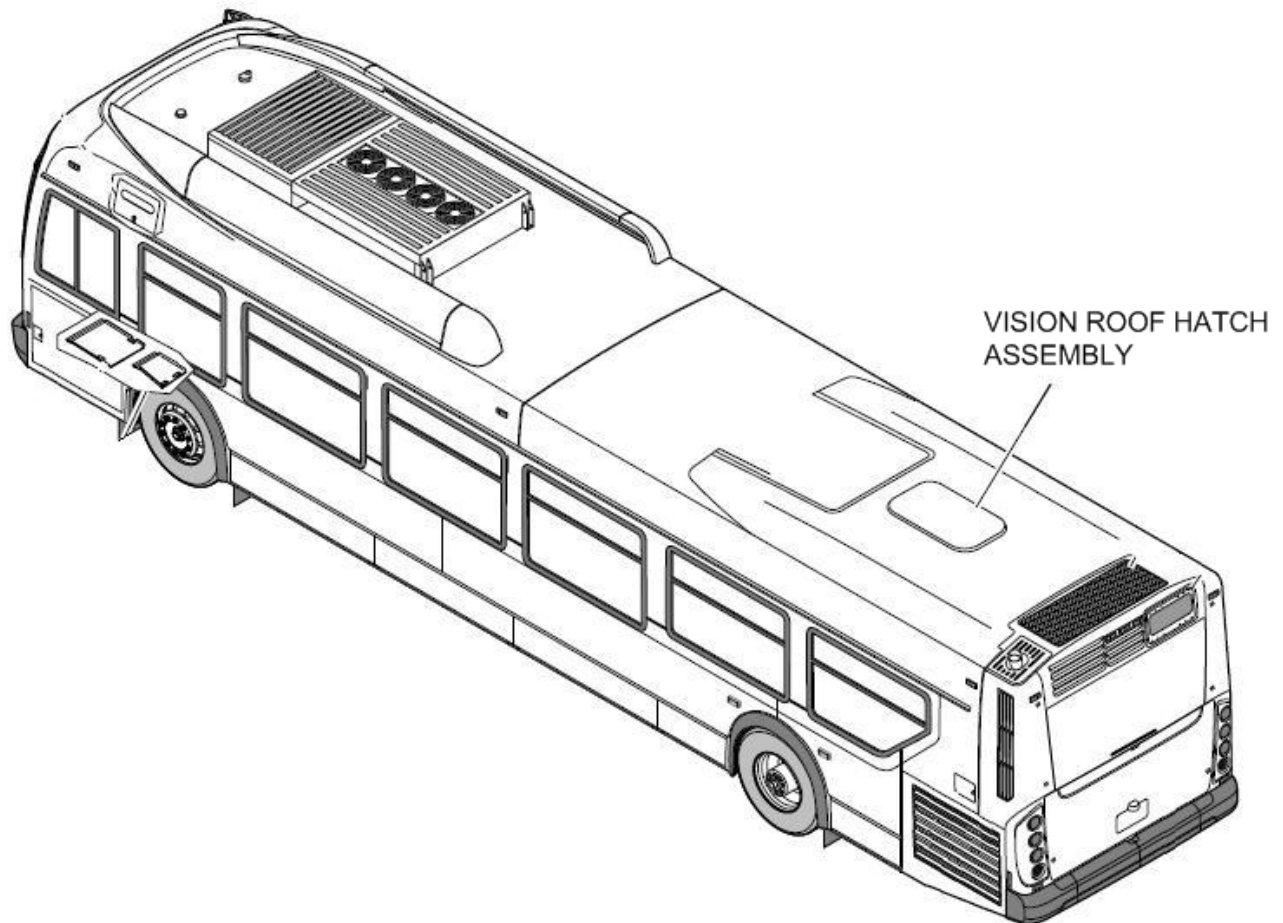

Figure 1: ROOF HATCH LOCATION REFERENCE
2. Locate the roof hatch on the rear of the coach as shown in Figure 1.